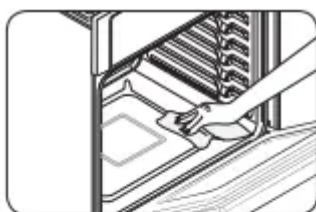

Fig. 1
- Wipe up debris from the oven bottom. (Fig.1)
- Remove the wire rack, broil pan, broil pan insert, all cookware, and any aluminum foil from the oven. • Wipe up debris from the oven bottom. (Fig. 1)